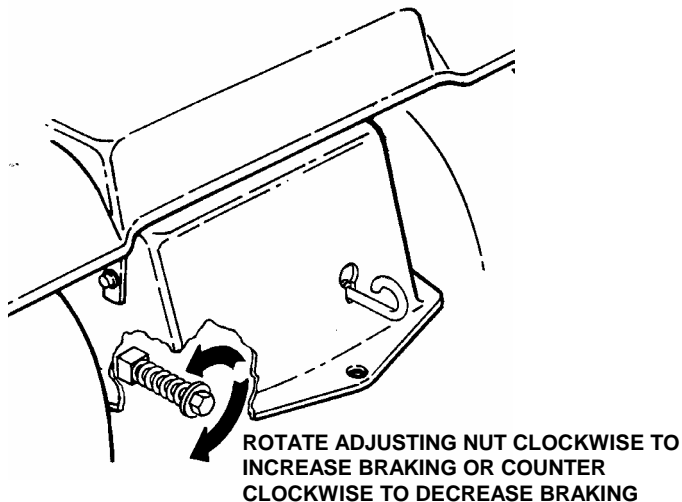

FIGURE 4.13
4. Locate brake adjustment nut underneath the rear of tractor. See Figure 4.13.